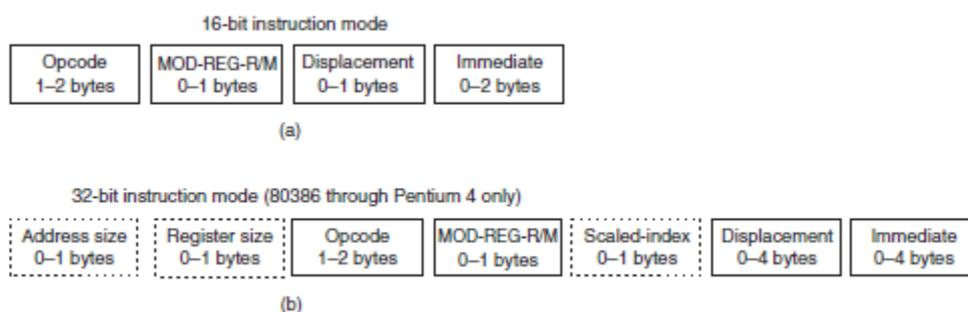

Figure 4-1: The formats of the 8086-Core2 instructions. a) The 16-bit form and b)The 32-bit form
- In real-mode, 80386 & above assume that all instructions are 16-bit mode instructions (Fig 4-1).